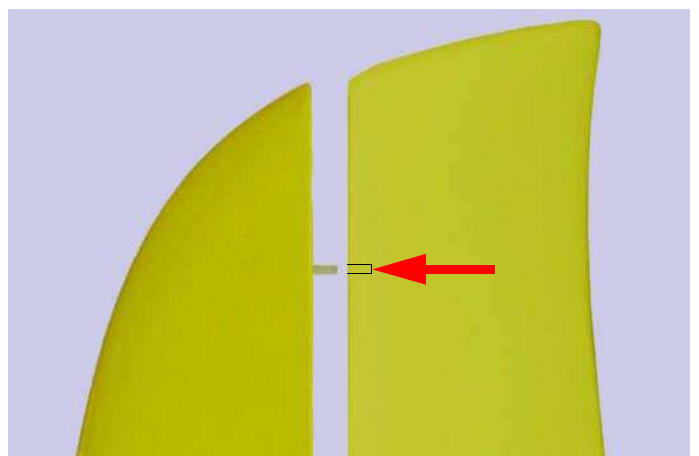

Fig.43: Mark the contact point.
- put the rudder close to the fin (see figure 43);
- using a pencil, mark the contact point between rudder and fin upper pivot support “SSUP” (see figure 43);